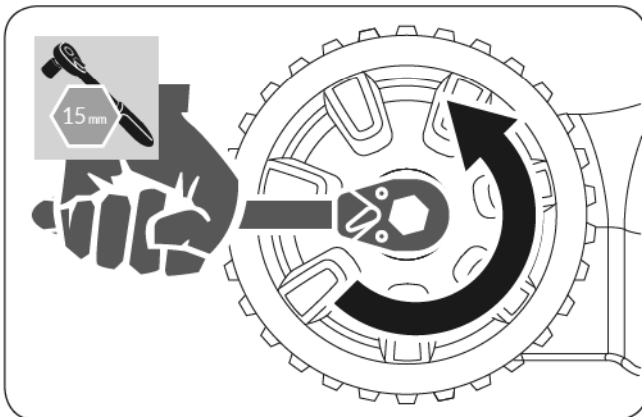

**Figure 27**
5. Remove the rear end of the V-belt. Replace the new belt and restore it. (See **Figure 27**)